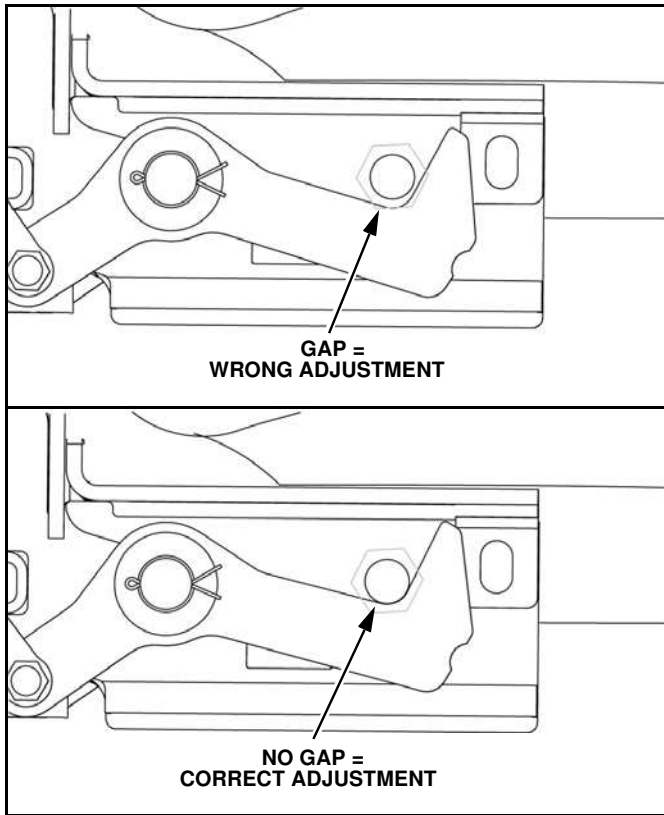

Figure 1-41
5. Periodically the turnbuckle will need to be adjusted due to wear and tear of the VRM. (See Figure 1-41).